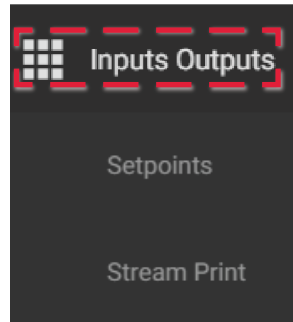

Figure 3-18. Inputs Outputs Menu
1. Select **Inputs Outputs** to expand the Input/Output Menu Figure 3-18 on page 31.